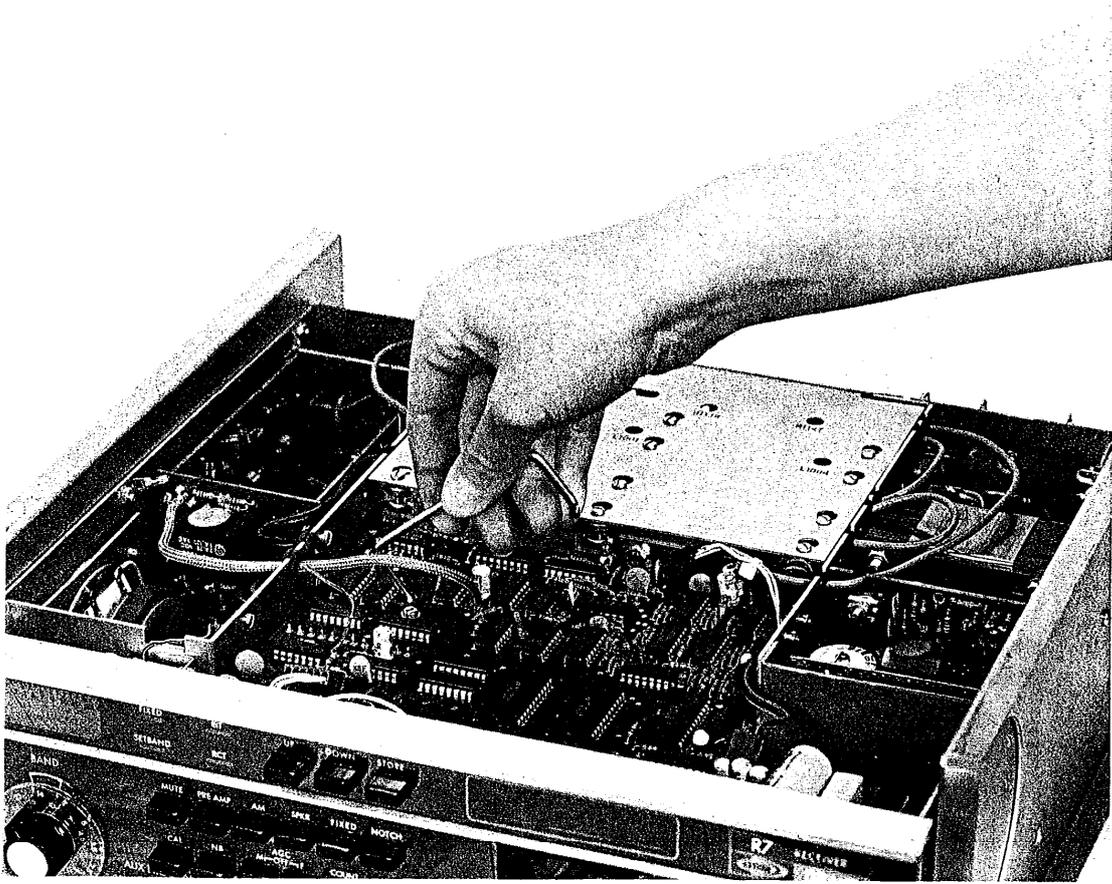

Fig. 4-1 DR-7 Removal
The DR-7 provides two major functions for the R7 — full receiver coverage from 10 kHz-30 MHz and digital frequency display. The two sections are completely independent. A failure in one section will not usually affect the other. A careful observation of the symptoms and a few measurements will isolate the fault to a major section. See table 4-1 before removing DR-7. Refer to figure 4-1 for the parts location and figure 4-2 for the schematic.
DR7 REMOVAL (Refer to Pictorial Fig. 4-1)
1. Unplug (5) five connectors (P1 through P5) from the DR7 board. Position cables carefully so that they will be free of the DR7 Board when it is lifted out. Remove the retaining screw and lockwasher (adjacent to U9006).
3. Using the card puller supplied with the radio, hook one end under the front edge of the large hole adjacent to U9008 (shown in figure 4-1). Grasp the tool and pull upwards firmly, but slowly, to disengage one 12 pin, one 9 pin and two 3 pin connectors. Once the connectors have been disengaged, remove the card puller.